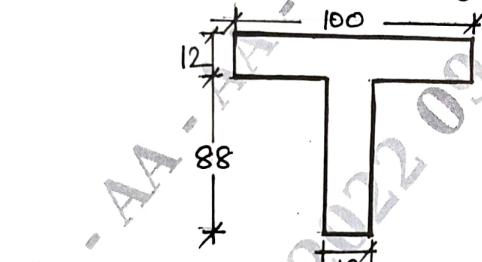

Fig Q5(b)- i)
- b. Draw shear stress distribution indicating values at salient points. Fig Q5(b)- i) and ii)